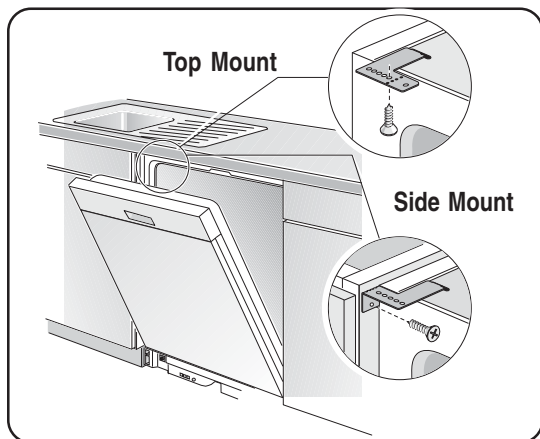

Figure 21
- 1 Drive the mounting screws through the holes in the mounting brackets as shown in **Figure 21** for Top or Side Mount.